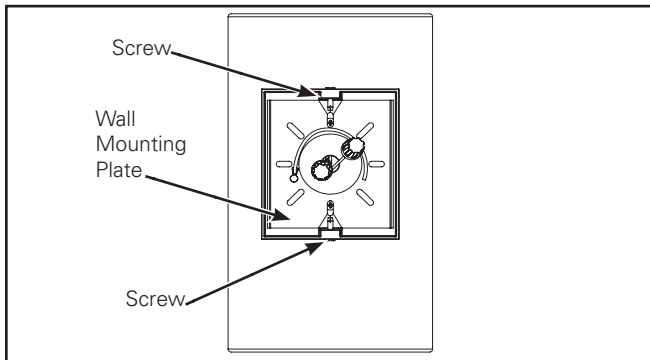

Figure 1.
2. Mount cylinder housing assembly to wall by tightening screws on top and bottom of arm base to engage mounting plate (Figure 1.).